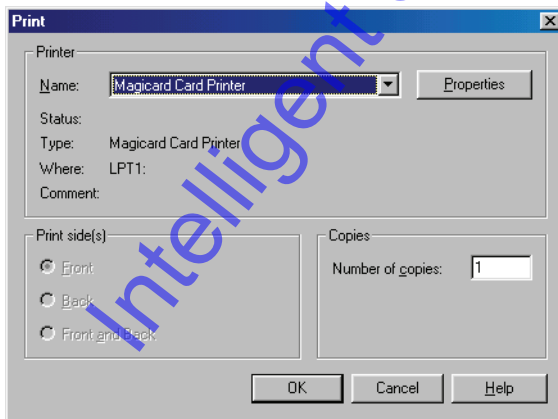

Figure 9-5: The Print Window
- Click the File ⇒ Print pull-down menu option. The Print window appears (see Figure 9-5).